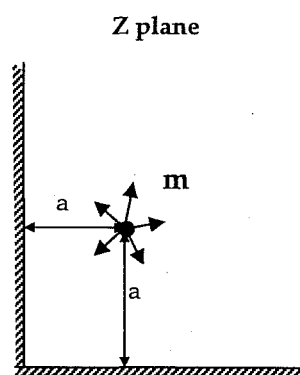
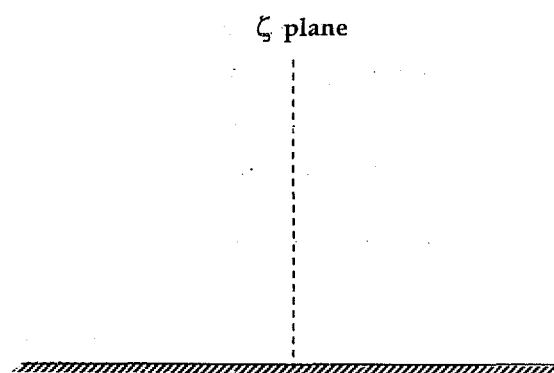

Figure 6a
Figure 6b
- 6) A student wishes to analyze the ideal fluid flow resulting from a source of strength  $m$  in a corner, as shown in Figure 6a ( $z$ -plane). In order to simplify the analysis the flow is transformed to the  $\zeta$ -plane as shown in Figure 6b.